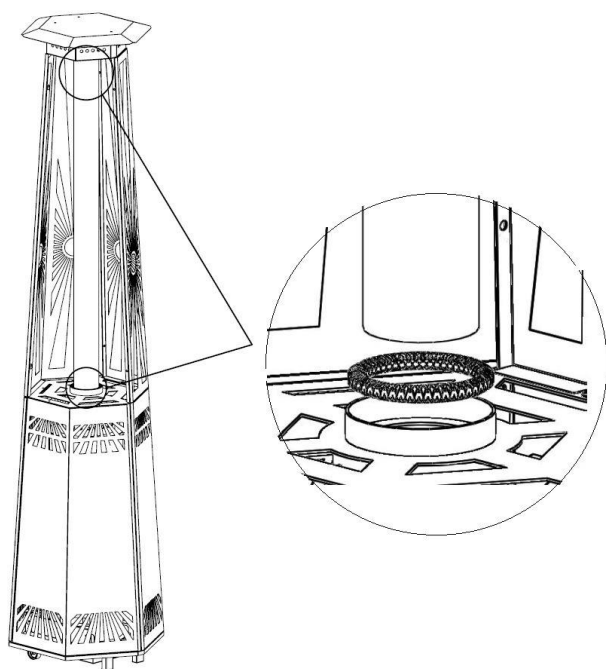

Fig. 9
9. Mount the quartz-glass pipe (RK). ATTENTION!!! Caution!!! The pipe is made of glass and may be broken. At the top and the bottom of the pipe mount the seal (U) as in fig. 9.